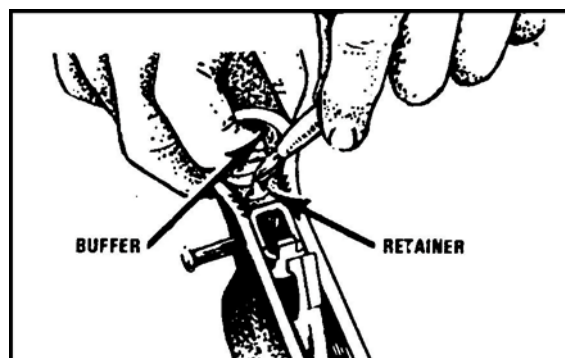

Figure 19. Separating the buffer and spring.
- r. Remove the buffer and action spring separating the buffer from the spring (Figures 19 and 20).